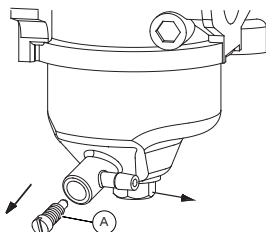

Figure 4-7. Drain Fuel from Carburetor
1. See Figure 4-7. Loosen screw (A) and drain fuel from carburetor.